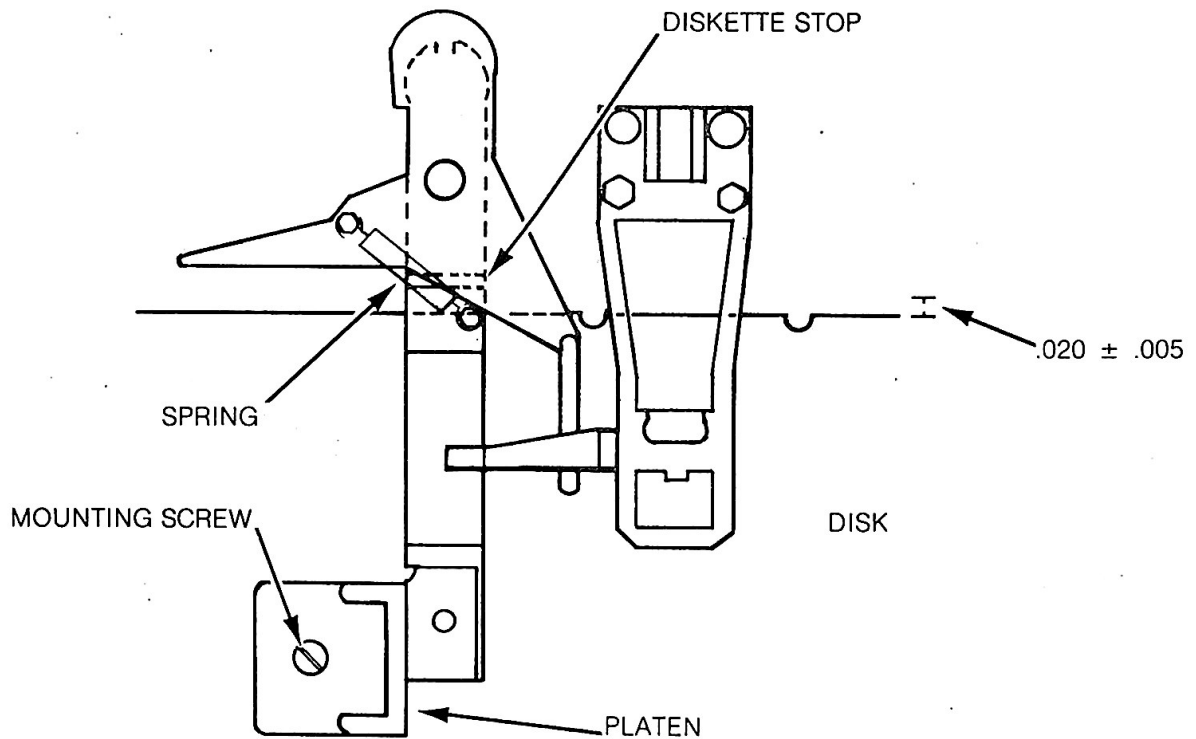

FIGURE 27. INTERLOCK ARM FIGURE (INCLUDES PLATEN)
- b. Remove the platen/interlock arm assembly by unfastening the platen mounting screw. Leave the index LED mount attached (reference Figure 27).
- b. Insert a diskette and position the platen so that a $.020 \pm .005$ " gap exists between the diskette stop and the diskette (reference Figure 27).
- c. With the diskette removed, verify that the bail arm on the flexure/mounted head contacts the interlock arm from tracks 0 to 39 (reference Figure 27).